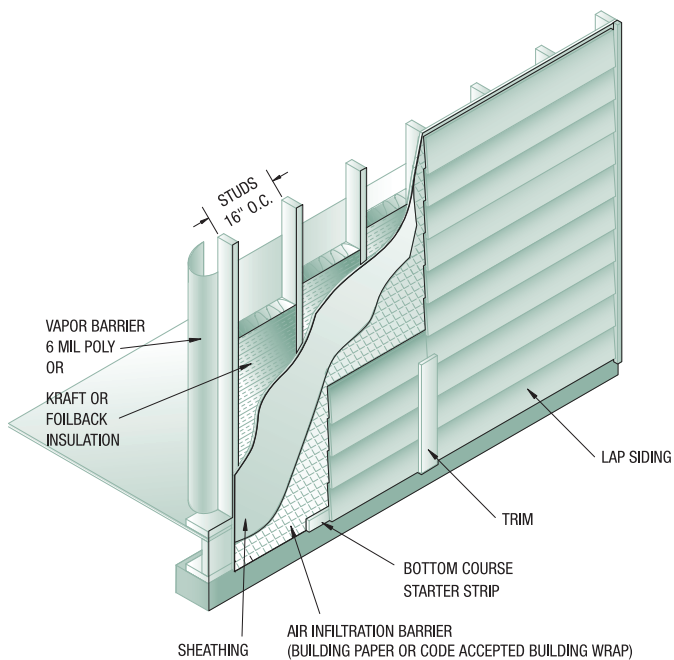

FIG. 5
- A continuous vapor barrier rated 1 perm or less is required across the interior side of all walls to be sided. Examples include 6 mil polyethylene and kraft-backed or foil-backed insulation stapled tightly to the face or sides of the studs. See Fig 5 or 6.
- Vertically align butt joints at a stud (*See Fig 5*), fasten as required, gap 3/16", caulk and cover with trim.